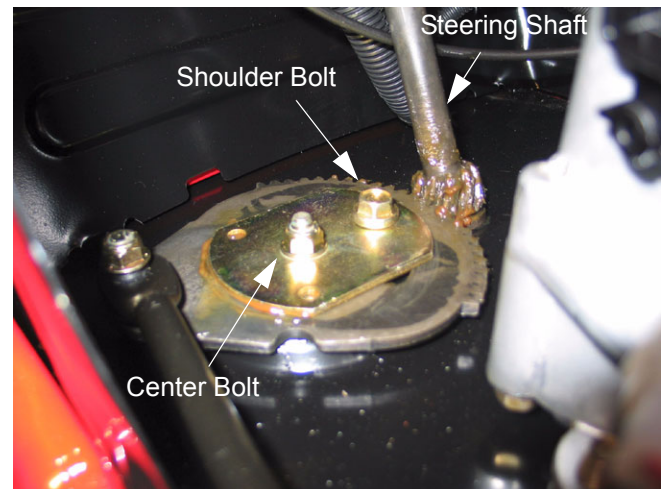

Figure 59
- 15.6. Using a 9/16" socket on the bottom and a 9/16" wrench on the top, remove the center bolt on the sector gear bracket. See Figure 59.